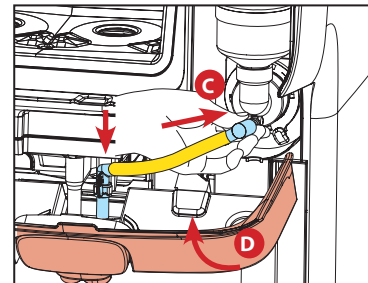

Fig.5
Close the panel (D) and the dispenser will automatically return to normal dispensing functions. (see fig.5)